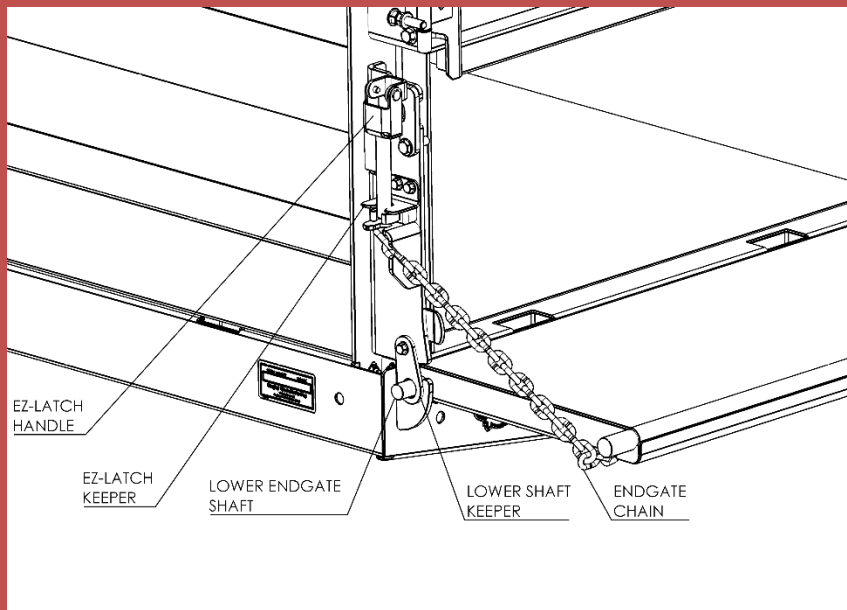

Figure 12: Installation of the Endgate Chain and Lower Endgate Keeper
15. Install the Endgate by placing the bottom shafts into the lower grooves. Close the Endgate and secure with the Latch Handles on both sides. Install the lower shaft keepers (1397417) and secure with the 3/8" Black Zinc Flange Bolts (2610226) and 3/8" Black Zinc Flange Nuts (2610229) provided. Refer to **Figure 12**.
The Endgate is designed so that it can be closed, opened, or removed. Avoid placing hands or any other body parts in locations where they could be pinched by the tailgate. The tailgate is heavy, and serious injury could result. Refer to **Figure 12** for component identification.